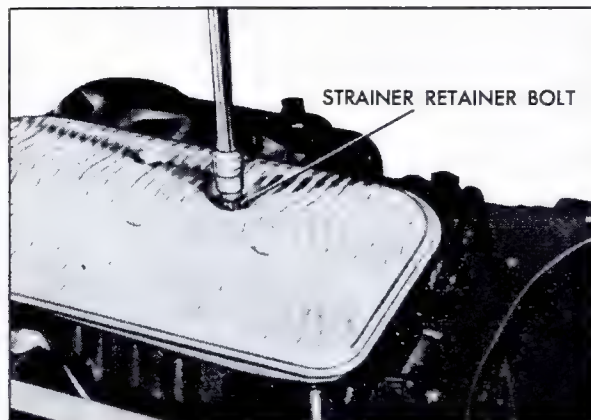

Fig. 7-44 Removing Strainer Retainer Bolt
3. Remove strainer retainer bolt, Fig. 7-44.